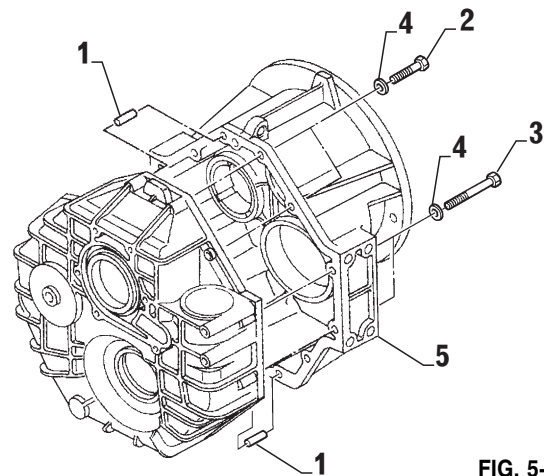

FIG. 5-7a
- Using a adequate drift punch, drive the parallel pins (item 1, Fig. 5-7a) with slight blows, out of the housing.
- Loosen hex bolts (item 2 and 3) with lockwashers (item 4, Fig. 5-7a) and remove input side of housing (item 5, Fig. 5-7a).